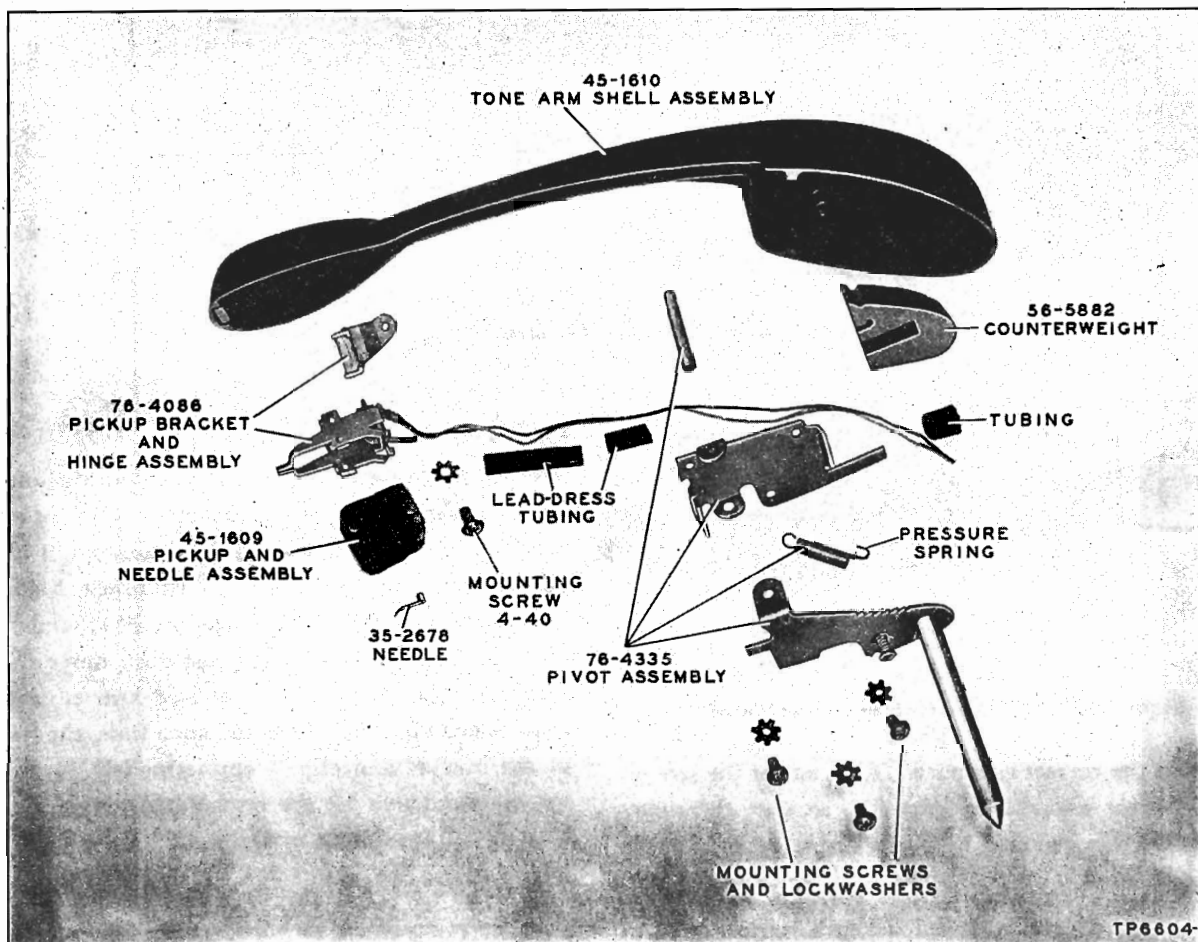

Figure 36. Record-Player Tone-Arm Assembly, Part No. 35-2686
a. Unsolder tone-arm leads from terminal panel on underside of changer base plate. The tone-arm assembly is shown in figure 36.